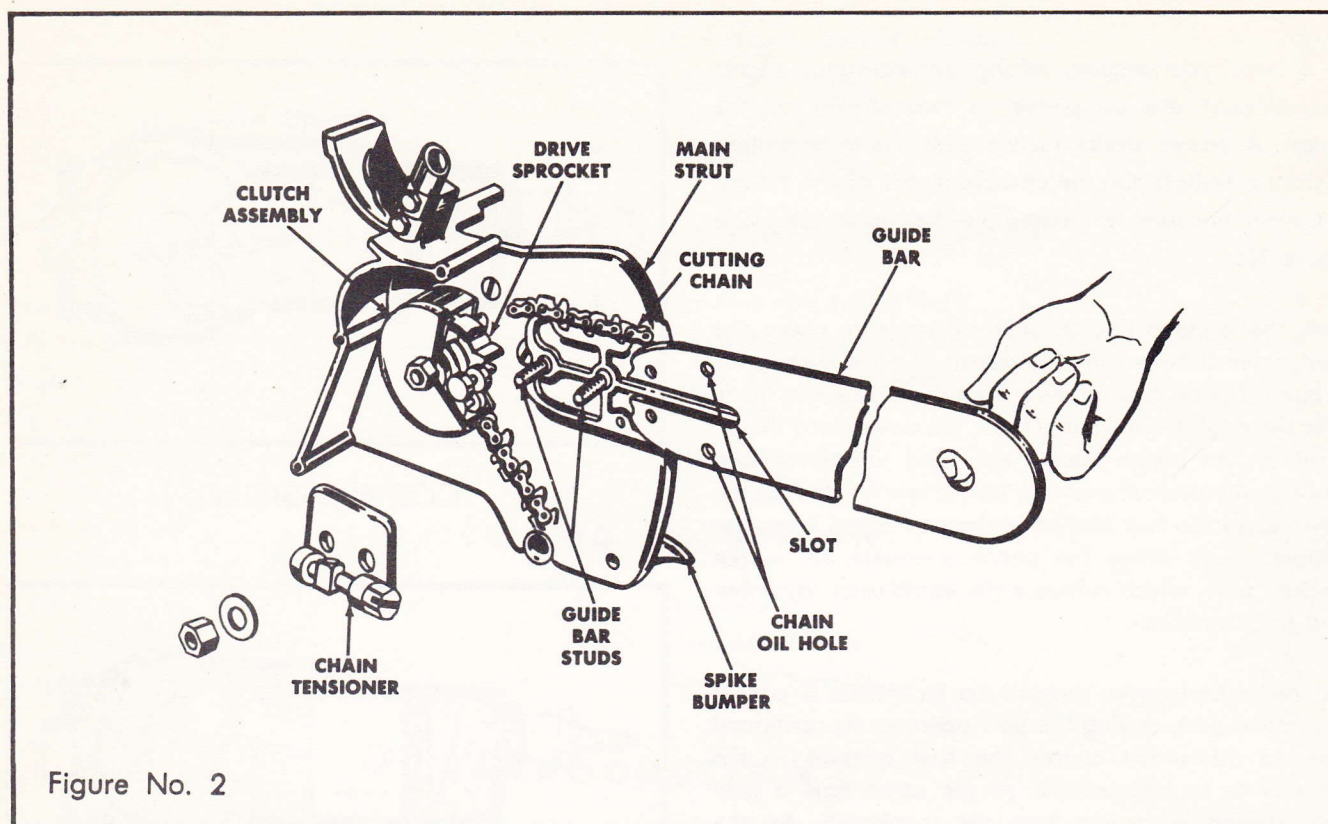

Figure No. 2
1. Slide the guide bar over the mounting studs on the reduction housing to the full length of the guide bar slot. (See Figure No. 2)